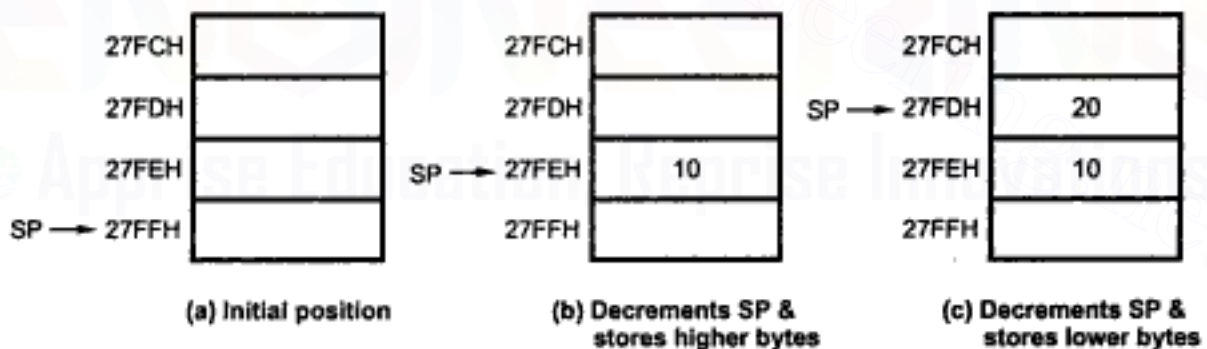

Fig. 5.3 Steps involved in PUSH Operation with example
**Example 1 :** The contents of BC register pair are 1020H and contents of stack pointer are 27FFH. Then after execution of PUSH B instruction the stack contents are as shown in the Fig. 5.3.